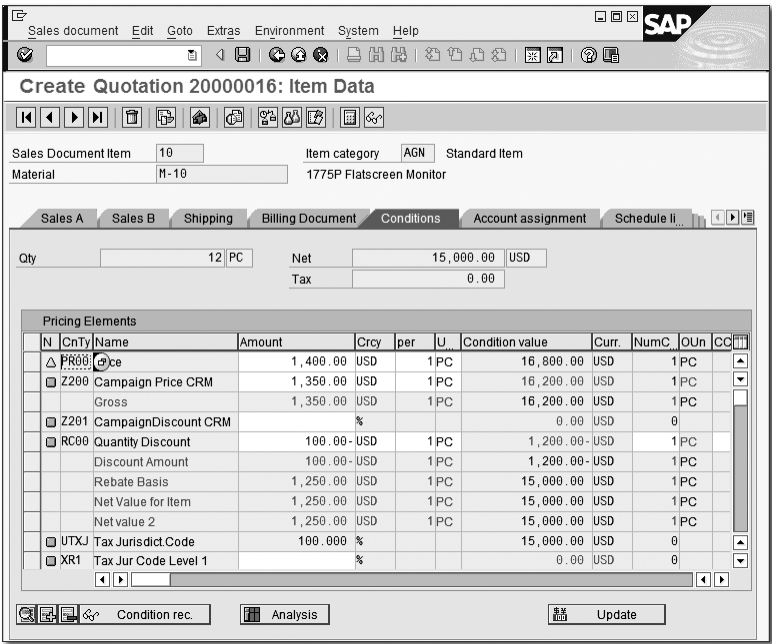

Figure 3.9 Create Quotation Item Data Pricing Conditions
4. If you need to make changes to pricing, which is usually the data object maintained the most during this presales activity, you can select the line item and use the ITEM CONDITION icon or the drop-down menus by choosing GoTo • ITEM • CONDITION, as shown in the item condition screen in Figure 3.9.